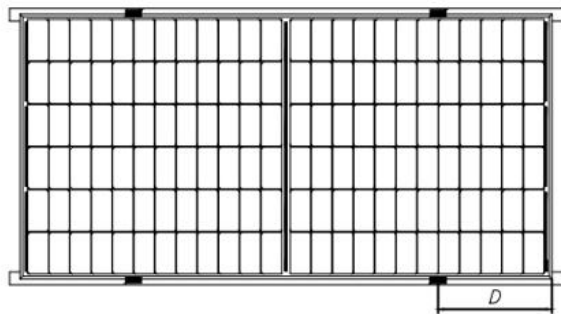

Fig.3 Rails overlapping the long-side frame
When PV modules are installed, each PV module must be fixed with at least 4 presses, as shown in Figures 3 、 4、 5、 6.
- ⑩ For the mounting shown in Figure 3, the overlap between the C surface of the module and the rail should be  $\geq 25\text{mm}$ . Astronergy's limited warranty will be void if improper clamps or improper installation is used.